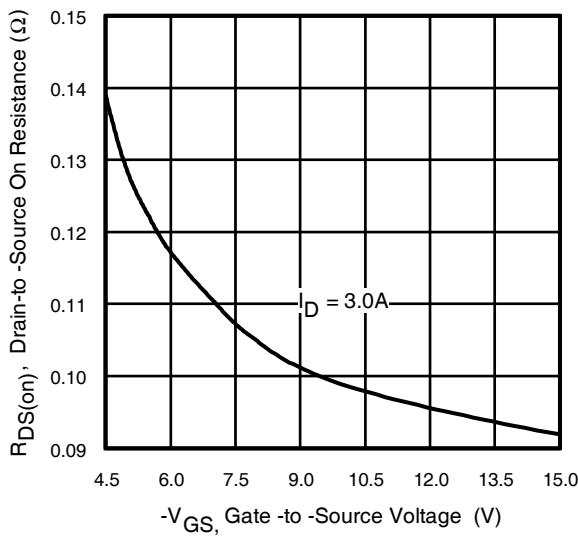
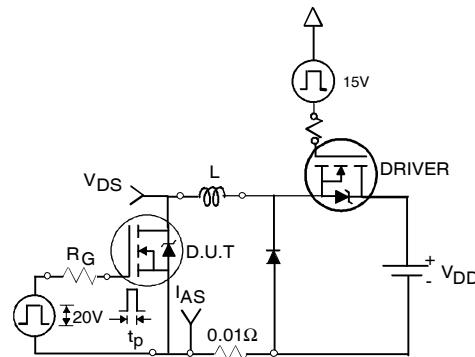

Fig 12. Typical On-Resistance Vs. Gate Voltage
Fig 16c. Unclamped Inductive Test Circuit
- ① Repetitive rating; pulse width limited by max. junction temperature.
- ② Pulse width $\leq 400\mu\text{s}$; duty cycle $\leq 2\%$.
- ③ Surface mounted on 1 in square Cu board
- ④ Starting $T_J = 25^\circ\text{C}$, $L = 4.9\text{mH}$, $R_G = 25\Omega$, $I_{AS} = 3.0\text{A}$. (See Figure 12).
- ⑤ $I_{SD} \leq 2.0\text{A}$, $di/dt \leq 155\text{A}/\mu\text{s}$, $V_{\text{DD}} \leq V_{(\text{BR})\text{DSS}}$, $T_J \leq 175^\circ\text{C}$
- ⑥ Limited by $T_{J\text{max}}$, see Fig.16c, 16d, 19, 20 for typical repetitive avalanche performance.